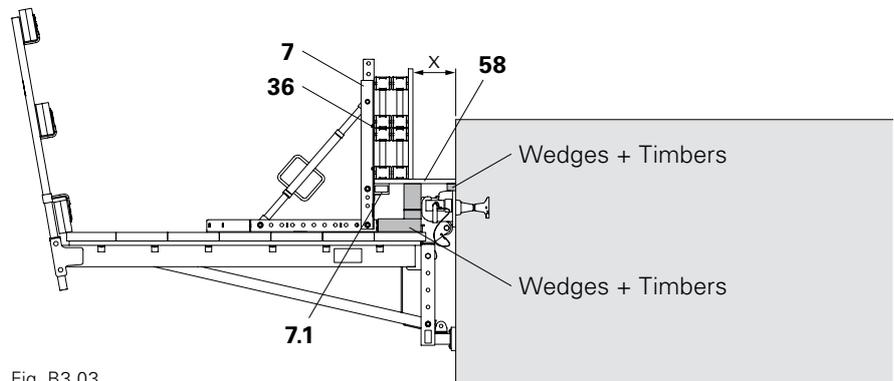

Fig. B3.03
2. Place the Side Formwork on the Beam Support (7.1) and slab formwork, and fix to Formwork Post VGK 70 (7) with wood screws (36). (Fig. B3.03)